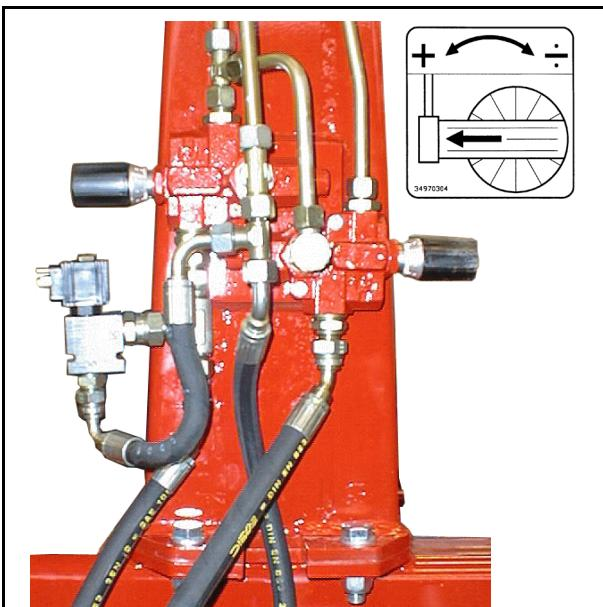

Fig. 7-1
- 7.1 Start the motor, let it run at approx. 2400 revolutions per min. The oil flow to the packing machine is adjusted with the use of two control valves which are situated behind the machines "neck".[see fig. 7-1]